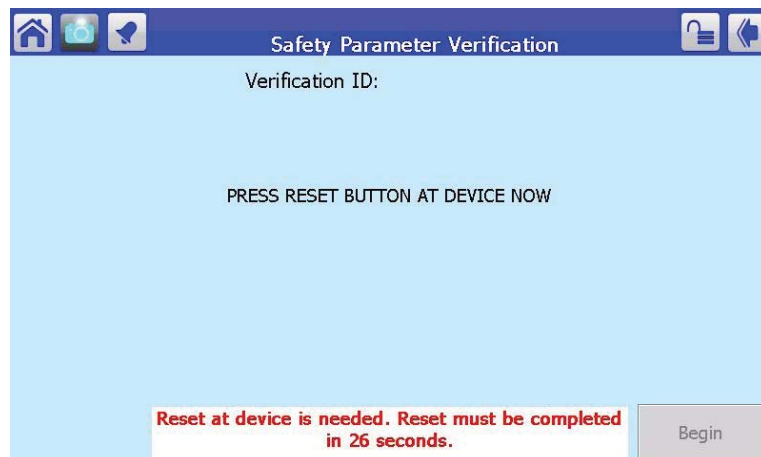

FIGURE 22 - VERIFICATION PROCEDURE
- If there are no more changes the control will ask for a reset (Figure 22). This can be done by pressing the reset button on the front of the Sola control (the base) for 1 to 2 seconds.